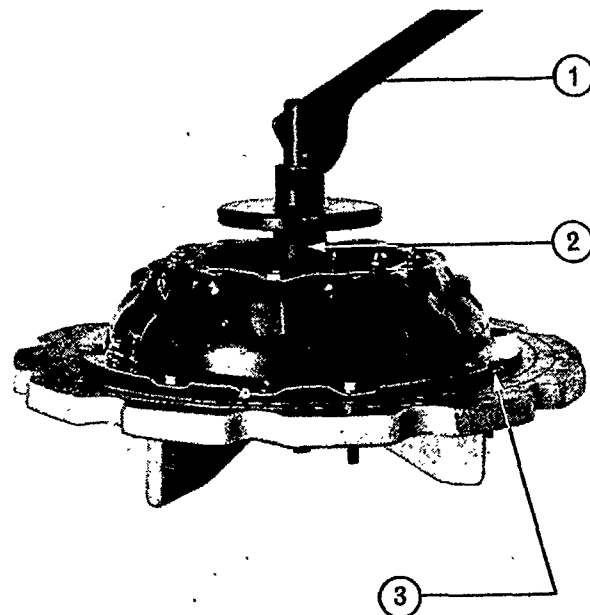

Figure 25
9. Locate the actuator cam platform extension, SW12B/20, on the threaded pillar of the actuator with the flange of the extension facing downwards. Screw the actuator into the spider, SW12B/14, of the tool base until the flange of the extension contacts the clutch release levers, Figure 25.